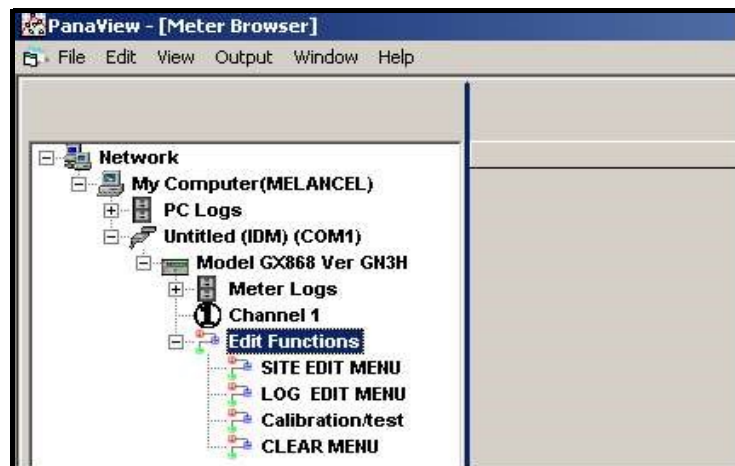

Figure C-19: Meter Tree with Edit Functions Option
4. From the meter tree, expand the *Edit Functions* option. The window now appears similar to Figure C-19 below, with a list of available menus. The menus listed are those available on the meter.